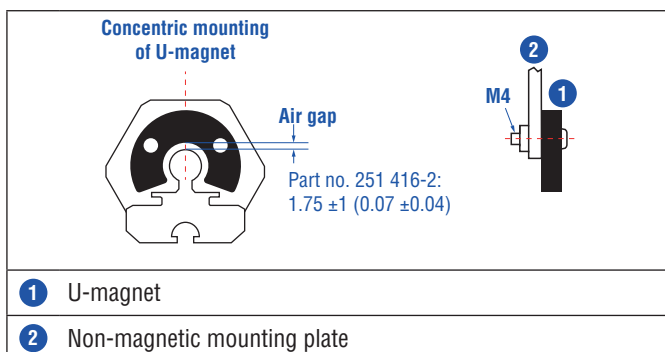
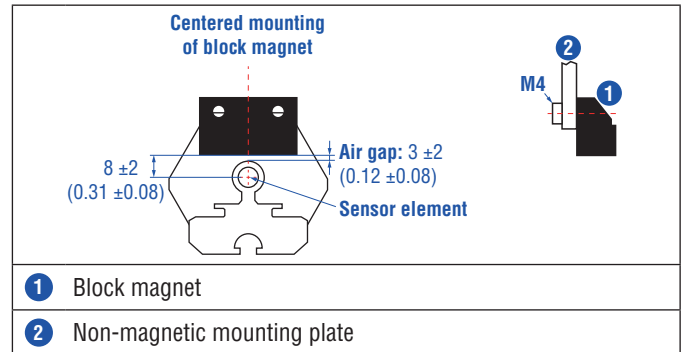

Fig. 13: Mounting of U-magnet (part no. 251 416-2)
Fig. 14: Mounting of block magnet (part no. 403 448)
- Mount block magnets centrally over the sensor rod or the sensor profile. The maximum permissible air gap must not be exceeded (Fig. 13/ Fig. 14). Take care to mount the primary sensor axis in parallel to the magnet path in order to avoid damage to the carriage, magnet and sensor rod profile.